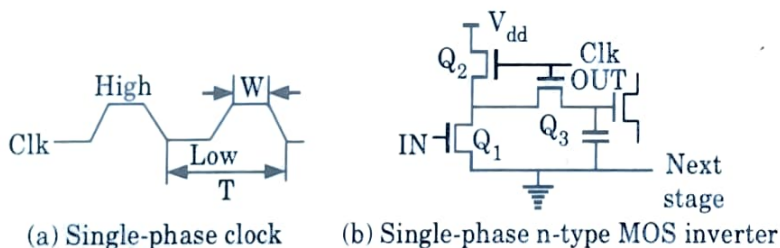

Fig. 3.13.1.
1. Single-phase clock consists of a sequence of pulses having high and low levels with width W and time period T as shown in Fig. 3.13.1(a).
3. The schematic diagram of a single-phase dynamic nMOS inverter is shown in Fig. 3.13.1(b).